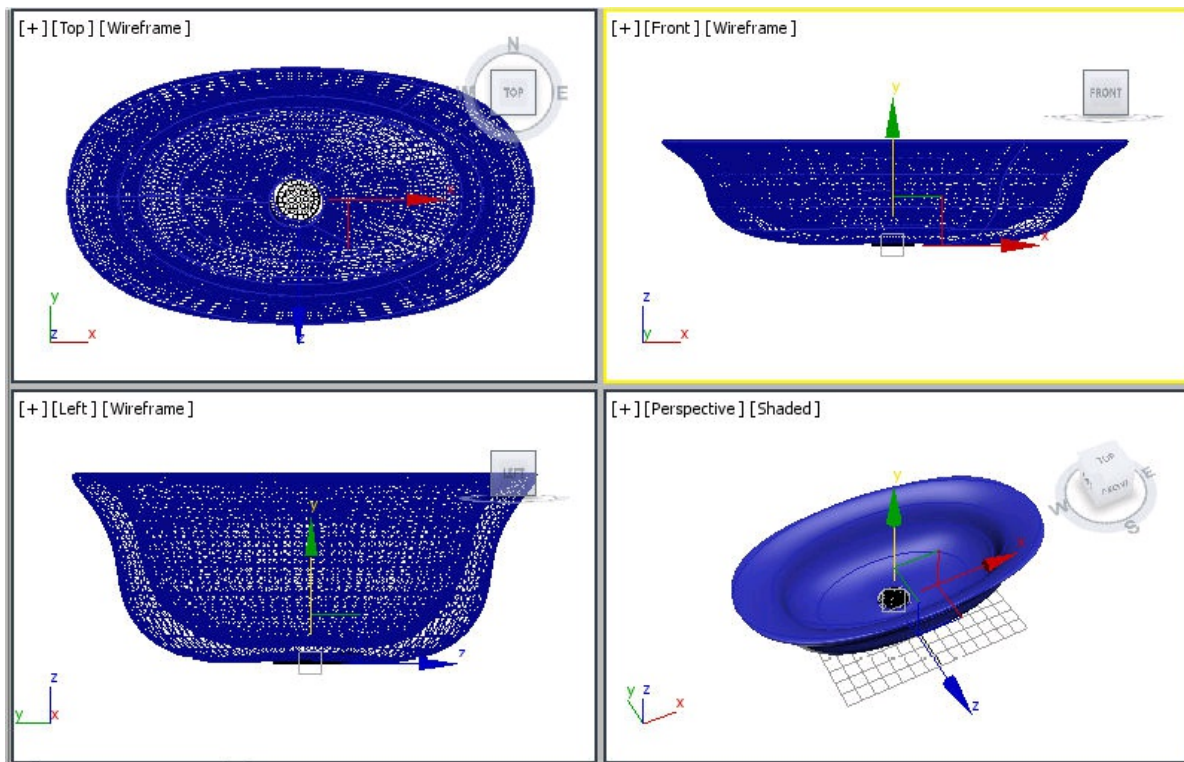

Figure 10-68 A sieve created and aligned in viewports
10. Modify the color of sieve to light grey and then unhide *washbasin* in the viewports. Next, align *sieve* in the viewports, as shown in Figure 10-68.